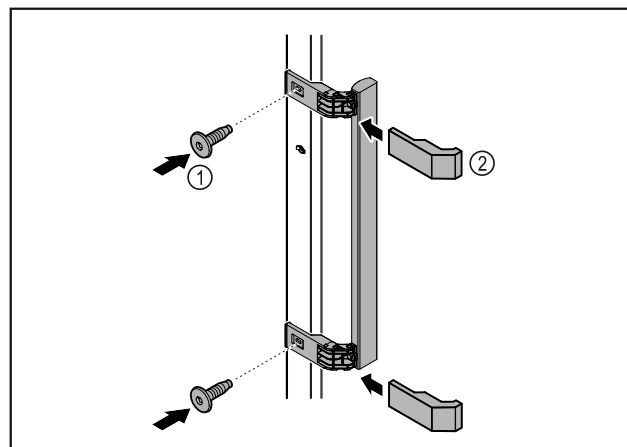

Fig. 3
- ▶ Attach handle from accessory kit to the door using the screws supplied Fig. 3 (1).
- ▶ Put on covers Fig. 3 (2).